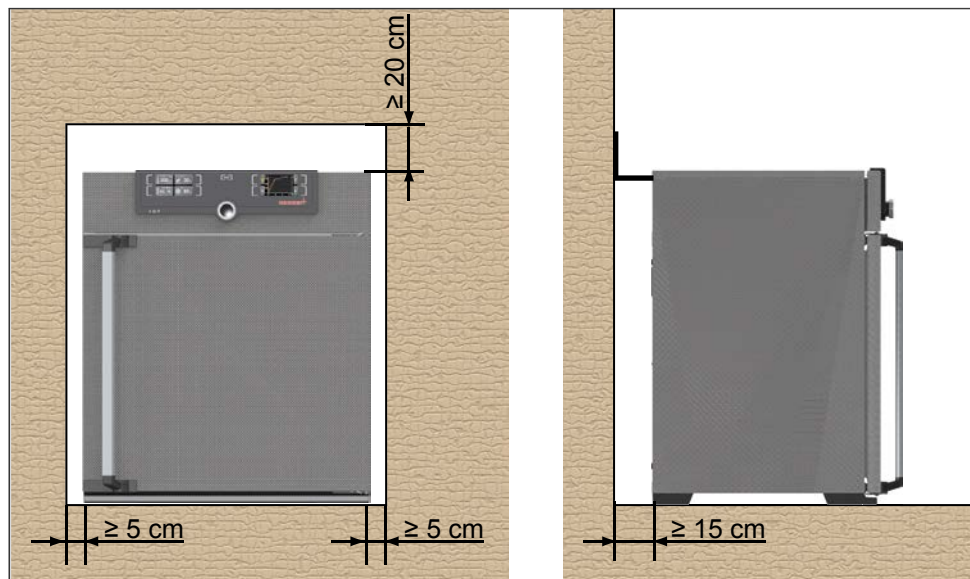

Abb. 9 Minimum clearance from walls and ceiling
The distance between the wall and the rear of the appliance must be at least 15 cm. The clearance from the ceiling must not be less than 20 cm and the side clearance from walls or nearby appliances must not be less than 5 cm (Abb. 9). Sufficient air circulation in the vicinity of the appliance must be guaranteed at all times.
2. Bend the tilt protection upwards by 90° in the desired distance to the wall (consider the minimum distance to the wall, see Abb. 9).